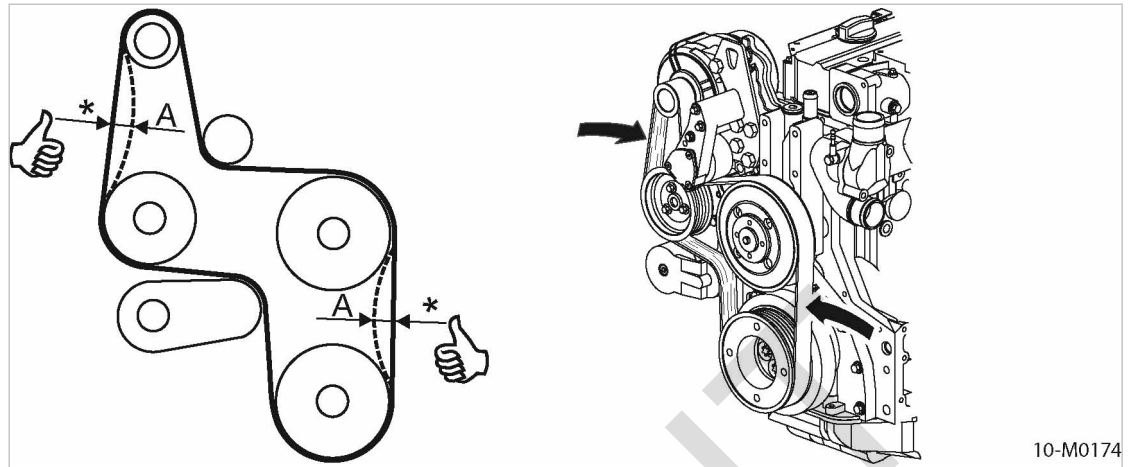

Fig. 51 Belt tension checking by hand
<ol style="list-style-type: none"> 1. Check belt tension with the tension measuring device. 2. Increase the tension on a loose belt. 	<p>Press the belts in with the thumb at the midpoint between pulleys.</p> <ol style="list-style-type: none"> 1. Check belt tension by hand (see Fig. 51). 2. Increase the tension on a loose belt.
3. Check the belt tension (see Fig. 51).